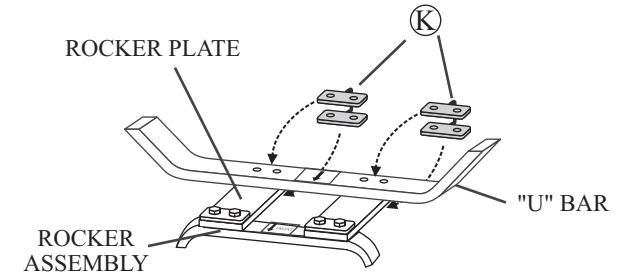
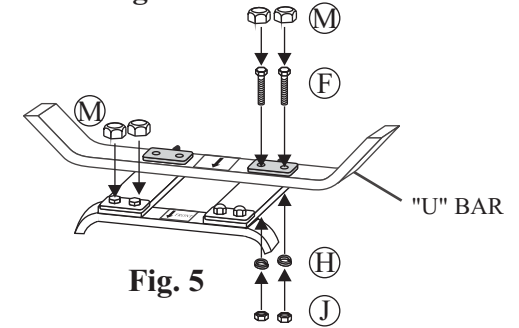

Fig. 4
Fig. 5
Step 6: Critical Step: The "U" metal plates must be installed in the proper location. Read this step and carefully examine. Align the holes in the U bar with the holes in the rocker plates. Insert a "U" metal plate as shown in Fig.4. Guide the 5/16"x35mm bolts through the holes in the "U" metal plate, "U" bar, rocker plate, and bottom portion of the "U" metal plate as shown in Fig. 5. Add a Ø8.0 x 2.3 mm spring washer and a nut to each bolt as shown in Fig.5. **Hand tighten only.** Repeat the same procedure on the other side.